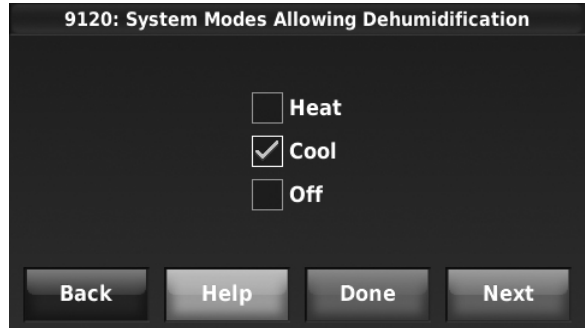

Fig. 245.
- Select the system mode(s) to allow dehumidification. See Fig. 245.